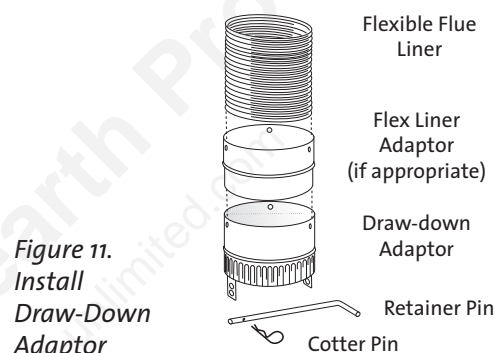

Figure 11. Install Draw-Down Adaptor
1. Insert the end of the chimney flue flex pipe as far as it will go into the non-crimped end of the adaptor or, if appropriate, the adaptor that may be supplied by the flex liner manufacturer. Orient the draw-down adaptor so that the retainer pin will be parallel with the front of the fireplace. This will ease locating the cotter pin hole. Fig. 11.